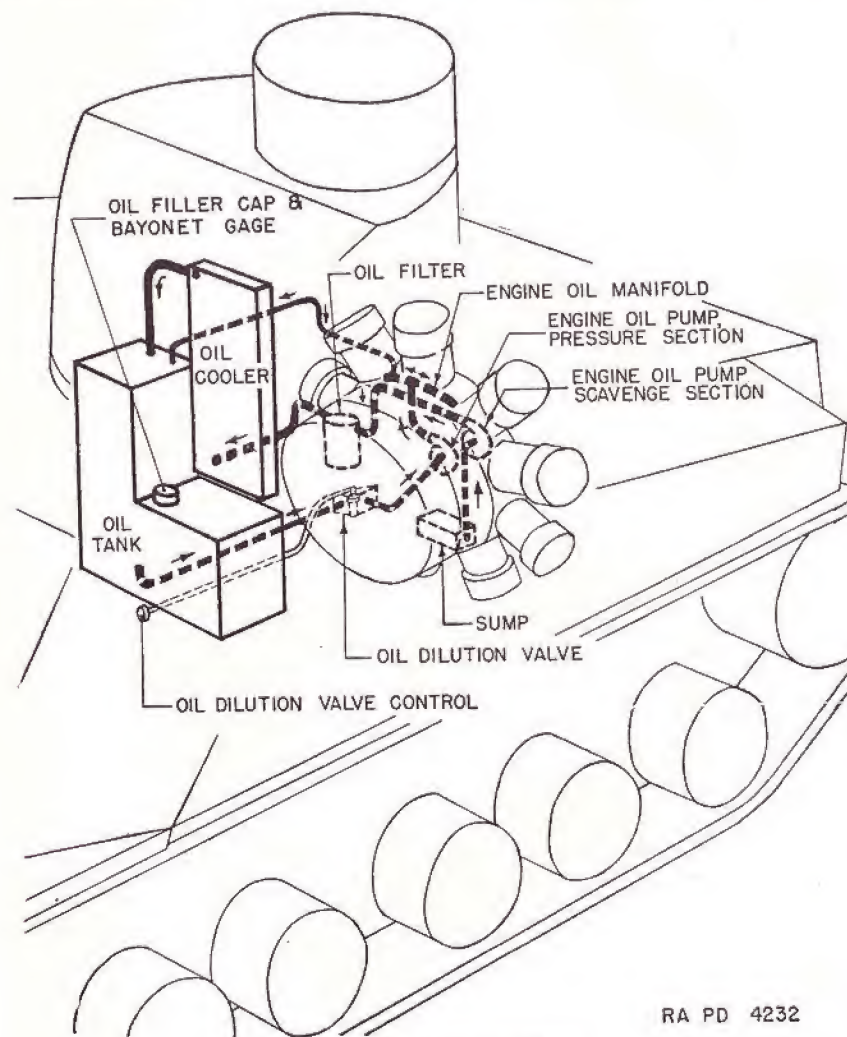

FIGURE 9.—Engine oil system.
16. Methods.—*a.* In the engine oil system (fig. 9), oil is drawn from the bottom of the oil tank by the engine oil pump and forced into the engine oil circuit. The excess oil in the engine oil circuit is returned directly to the oil tank by the oil pump. The oil, after lubricating the engine parts, accumulates at the bottom of the crankcase, and this oil is pumped by the oil scavenging pump through the oil filter to the oil cooler and then to the oil tank. The oil tank and oil cooler are located at the bulkhead in the fighting compartment.